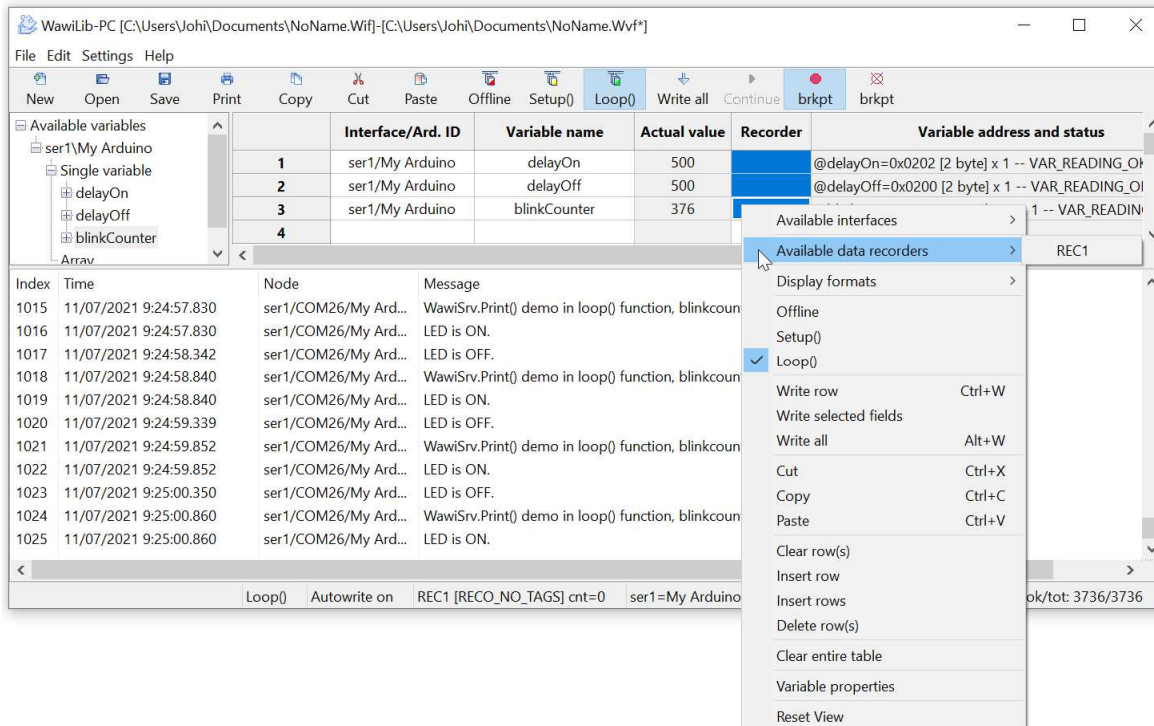

Fig. 7.3. Link all the variables to a data recorder REC1.
- ✓ In the main grid, select all variables recorder fields (Fig. 7.3 in blue), click right and select “Available data recorders/Rec1”: